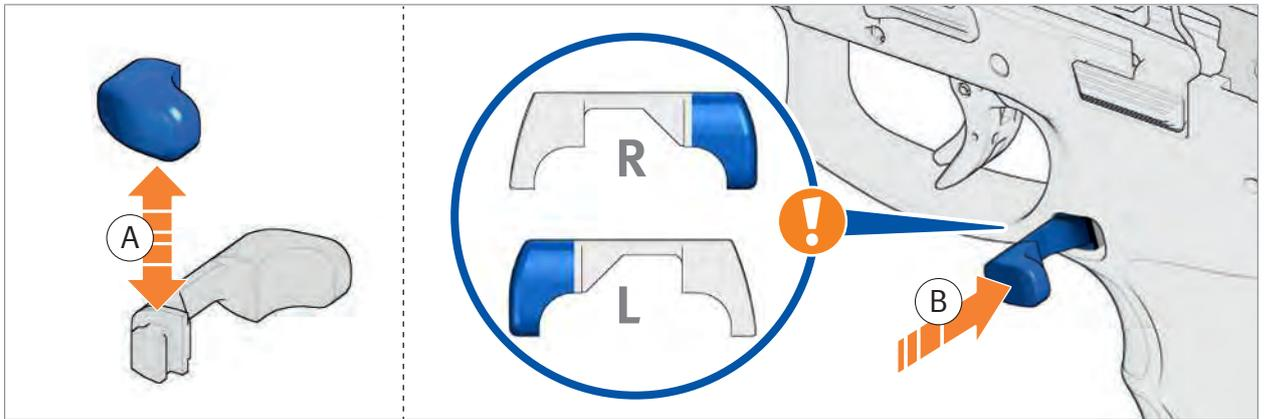

Fig. 31: Convert pushbutton
2. Convert pushbutton (Fig. 31).
3. Insert pushbutton (Fig. 31).